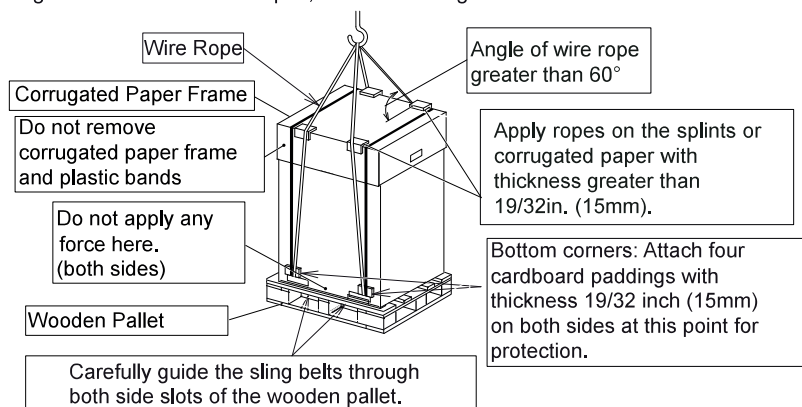

Fig. 2.1 Hanging Work for Transportation
- (1) Do not remove any packing materials.
- (2) Hang the unit in packaged state with two wire ropes, as shown in Fig. 2.1.